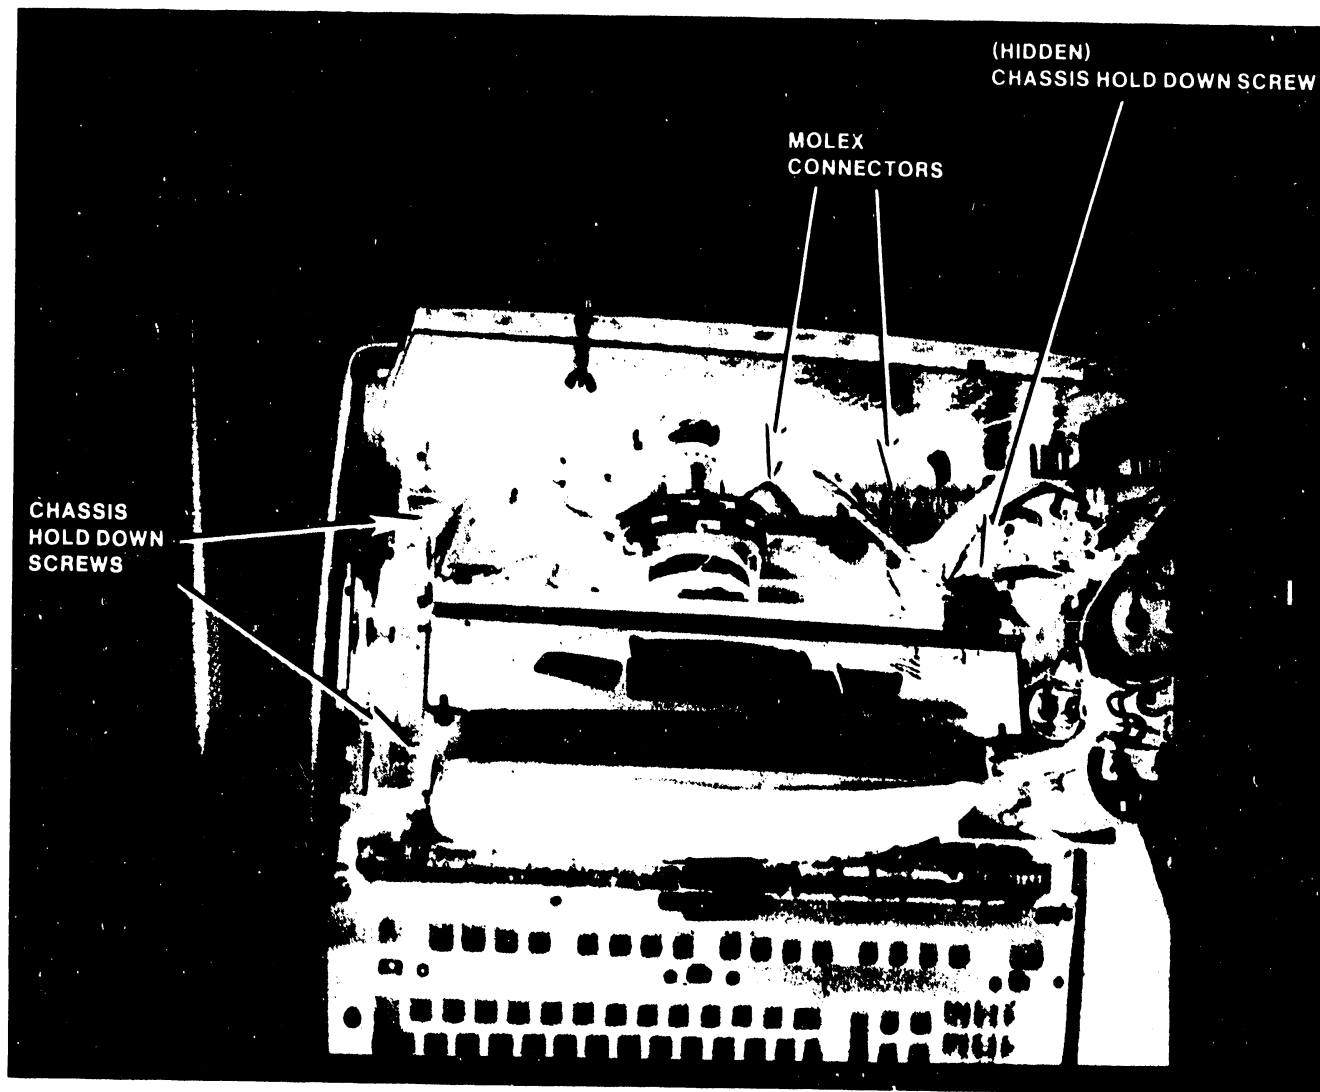

Figure 5-6. Chassis Removal/Replacement
5.2.2.3 CRT Chassis (Figure 5-6)